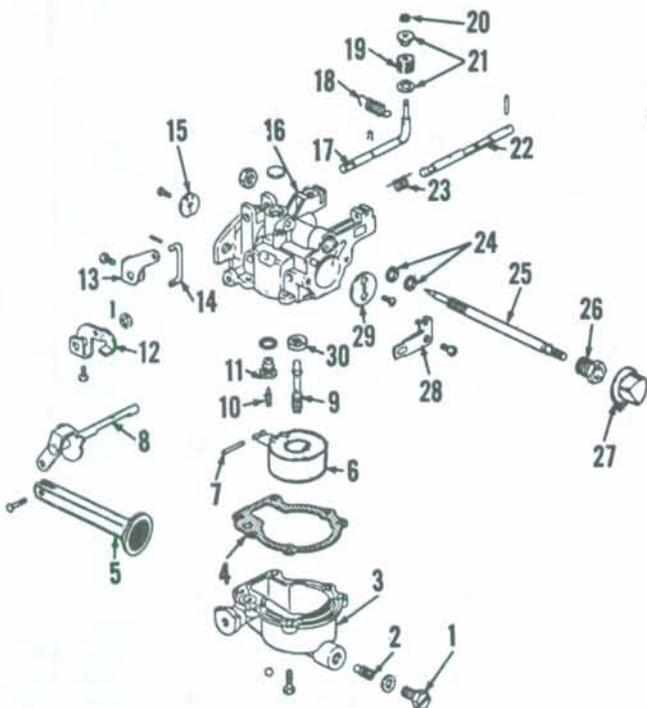

Fig. OM4-1—Exploded view of carburetor and associated parts.
CARBURETOR. A float type carburetor is used; refer to Fig. OM4-1 for exploded view. Normal initial setting for slow speed mixture needle (25) is two (2) turns open from closed position. Major adjustment should be made with knob (27) removed. Clockwise rotation of needle leans the mixture. Make final adjustment after motor has reached operating temperature; then reinstall knob (27) with pointer down. High speed mixture is controlled with a fixed jet (2) and is not adjustable.
Refer to Fig. OM4-1 when disassembling or reassembling the carburetor. High speed nozzle (9) can be removed with a blade screwdriver after float chamber (3) is removed. Needle valve (10) and seat (11) can be renewed after removing the float. Renew all gaskets and packing whenever carburetor is disassembled.